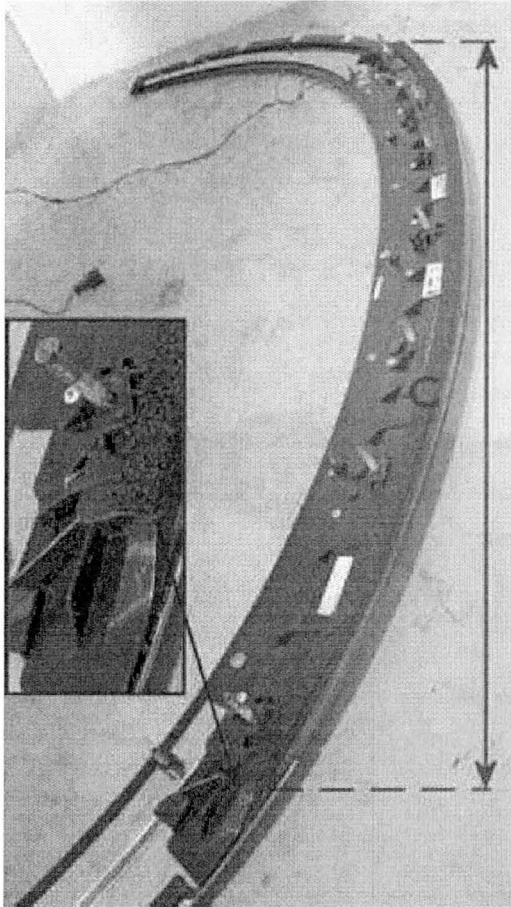

Figure 2
3. Fit new central foam strip (C) part number 3W7854335. Fit this foam strip centrally on the base of the stop lamp housing (see figure 2)